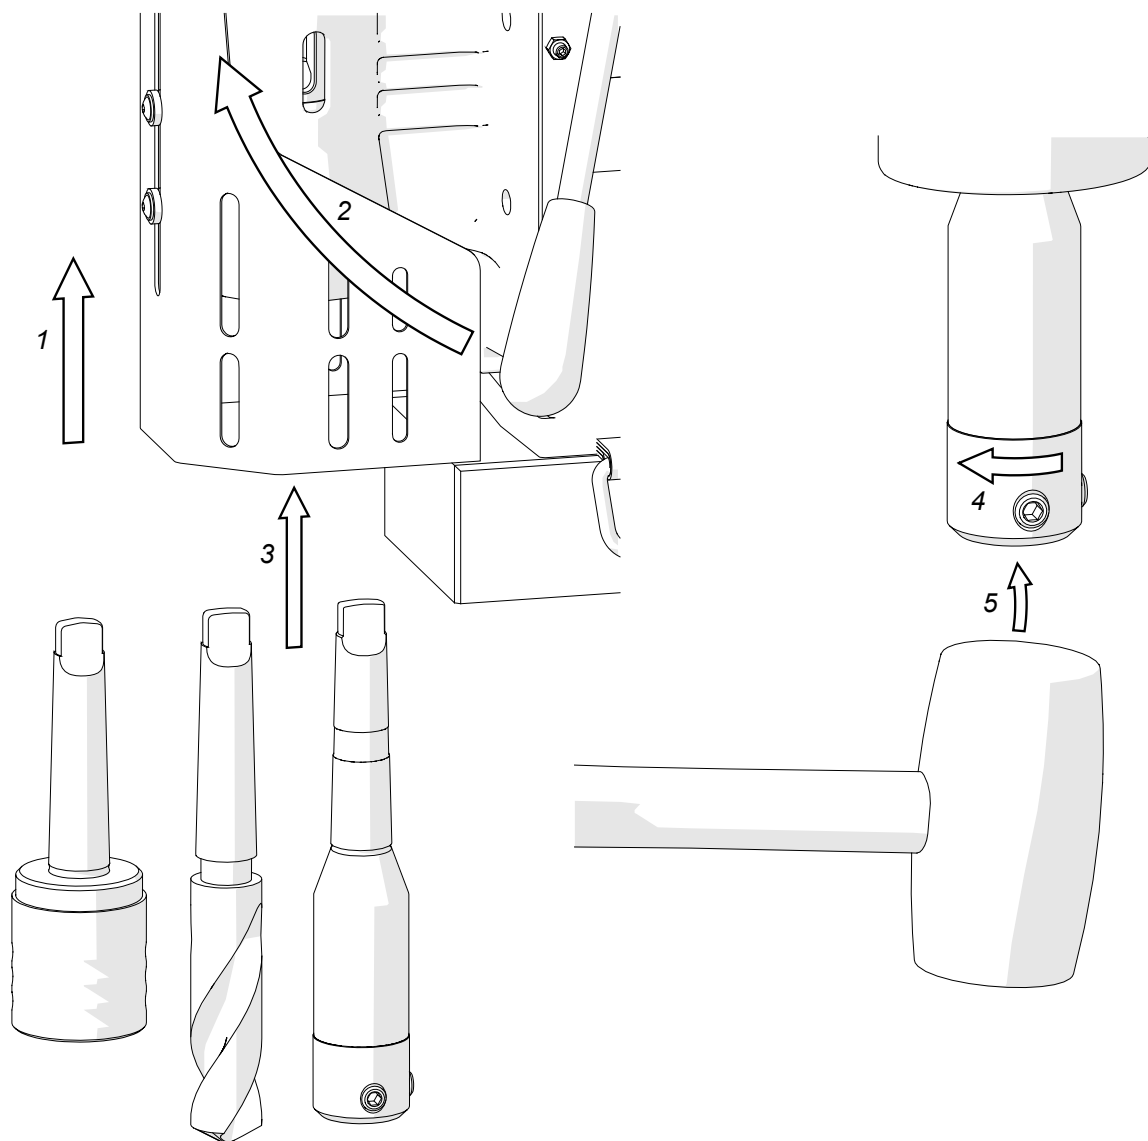

Fig. 2. Installing the arbor, drill bit, or tap chuck
Unplug the machine from the power source, raise the chip guard as high as possible (1, Fig. 2), and then rotate the spoke handles to the right (2) to raise the motor. Use a clean and dry cloth to wipe the spindle and arbor (drill bit, tap chuck). Next, wear protective gloves and insert the arbor (drill bit, tap chuck) into the spindle (3), and then rotate the arbor (drill bit, tap chuck) to the right (4) until it slips into place. Finally, firmly tap the arbor (drill bit, tap chuck) into place using a mallet (5).